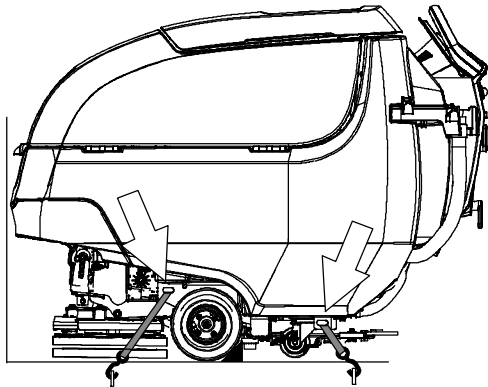

FIG. 145
4. Place a block behind each wheel (Figure 145).
5. Using tie-down straps, secure the machine using the four tie-down brackets located on the machine frame (Figure 145). It may be necessary to install tie-down brackets to the floor of your trailer or truck.